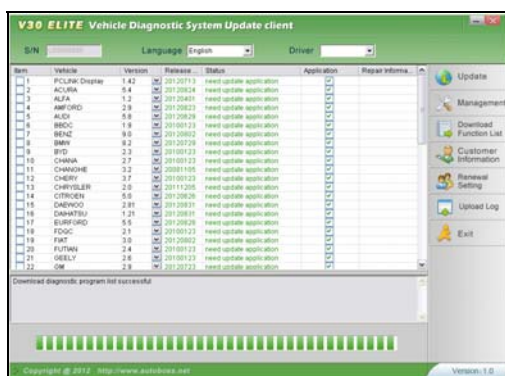

Fig 2-2 Downloads progress
- (1) Input the serial number and password then click the **[OK]** button to connect to server. It takes some seconds before the download is finished like Fig 2-2.
- (2) The default server is 'www.AUTOBOSS.net'. Normally you do not have to change the server.